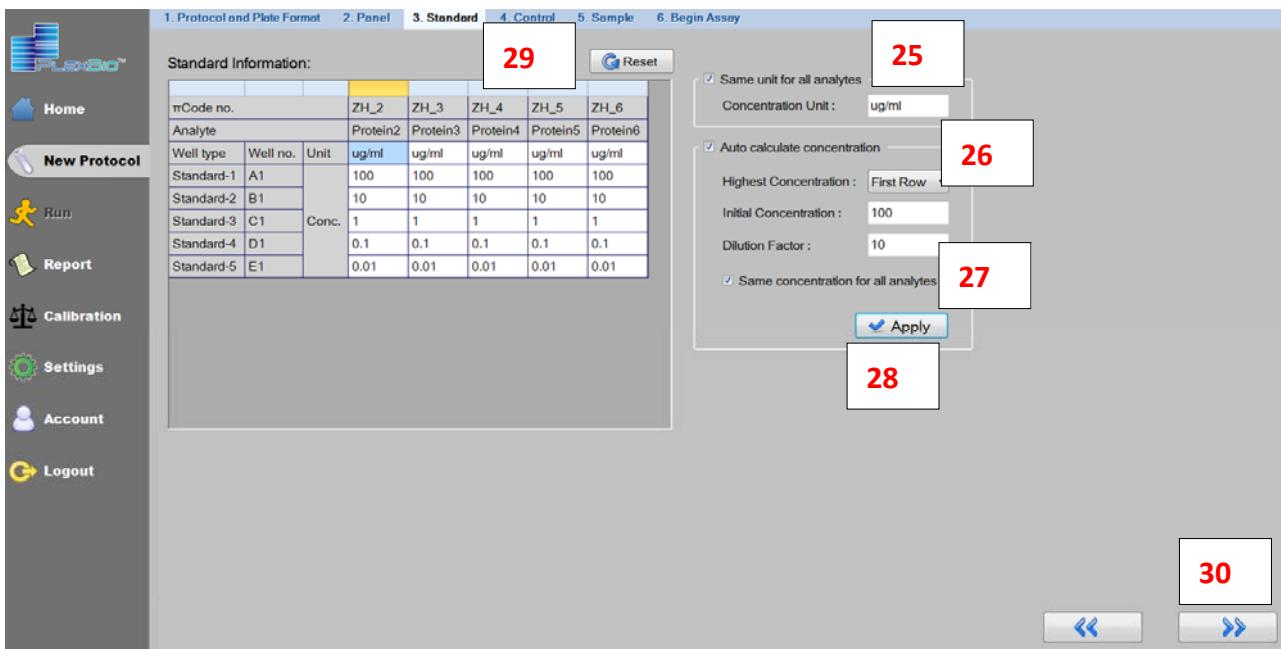

Figure 51. New Protocol/ Standard
Step 24. Units and concentrations for each analyte can be typed directly in the table or applied to multiple analytes using the tool on the right side of the screen. Please see Step 26 and Figure 51.